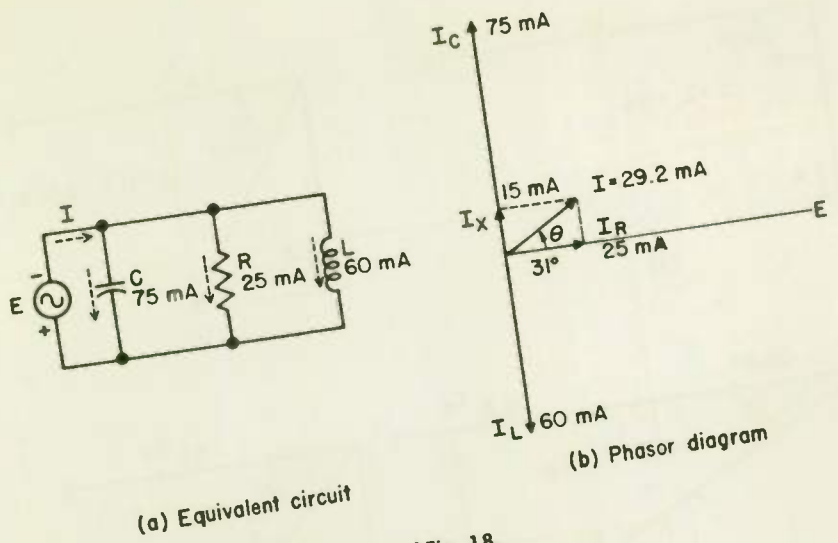

Fig. 19 Finding I in the circuit of Fig. 18.
SOLUTION . . . The total current will be the vectorial sum of the currents through C_1 , R_1 , C_2 , L , and R_2 . C_1 and C_2 can be combined into a single equivalent capacitor [C in the equivalent circuit of Fig. 19(a)] that draws 75 mA, and similarly R_1 and R_2 can be combined into R in Fig. 19(a). The value of I_x is 75 mA - 60 mA = 15 mA. Hence,
The phasor diagram, Fig. 19(b), shows that the current I leads the applied voltage E by an angle θ , which, if measured by a protractor, turns out to be 31° .
2. If E in Fig. 19 is 100 V, what is the circuit impedance?